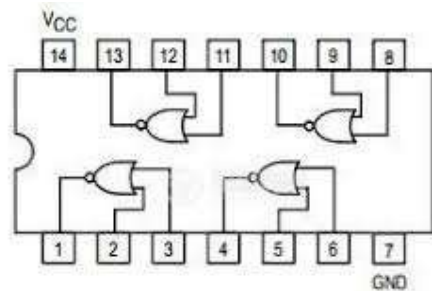

Fig 2.4: 74LS02 2-input NOR gate IC pin configuration
In order to implement the NOR gate operation using IC, the TTL 74LS02 2-input NOR gate IC can be used. This IC has 14 pin Dual Inline Package (DIP) configuration as shown in Fig 2.4. The power supply connections are made to pin 7 and 14. Pin 1 is identified by a small indented circle next to it or by a notch cut out between pin 1 and 14.
- Pin Assignments for the ICs have been shown in Fig 2.4